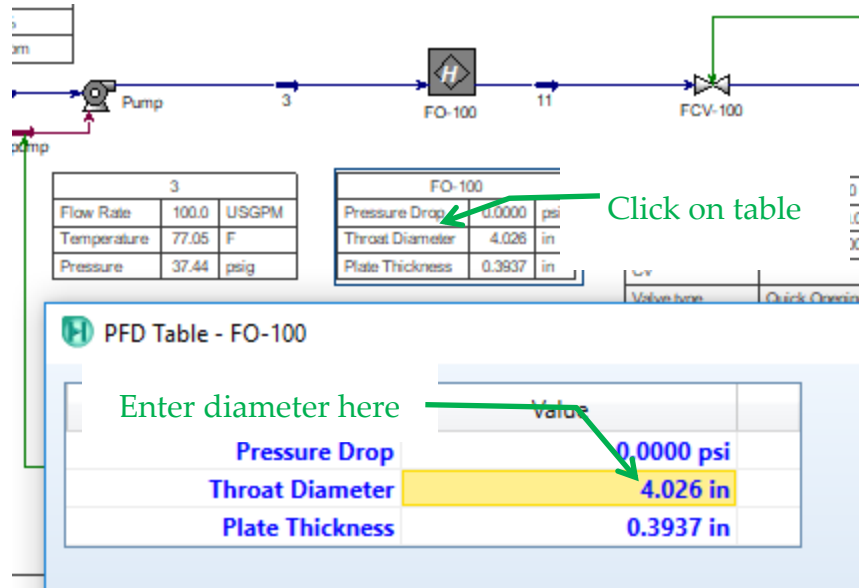

Figure 3. Entering the orifice plate diameter.
- 2) Input your diameter in the FO block (Figure 3).